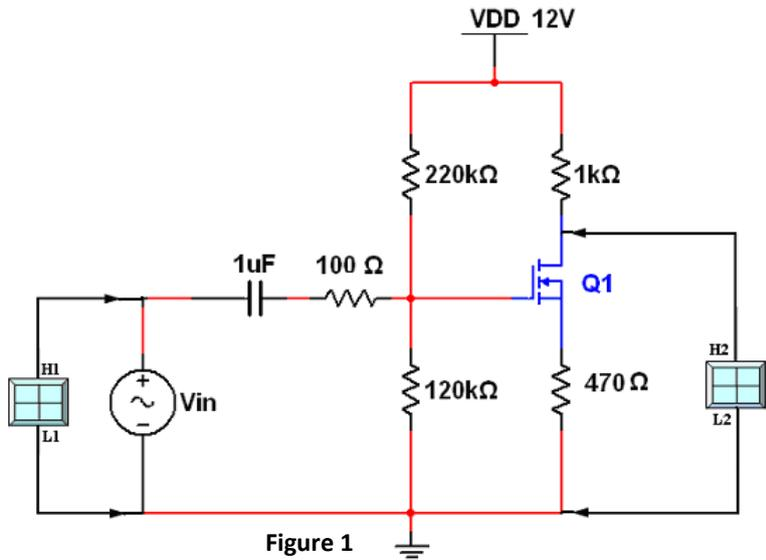

Figure 1
1. Construct the circuit shown in Figure 1, Use $V_{DD} = +12V$. **Do not connect** the Oscilloscope and the Function Generator at this stage.
3. Connect the Function Generator and the Oscilloscope to the circuit as shown in Figure 1.
1. Starting again with the same circuit shown in Figure 1, add **10 μ F** in parallel with the Source resistance (R_S).